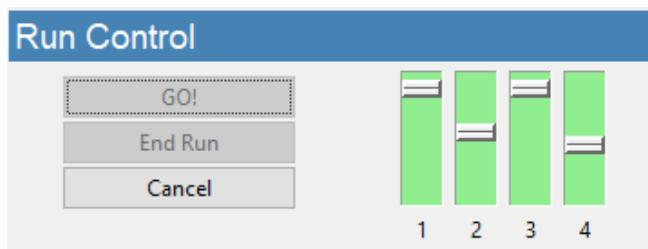

Figure 8. Run Control frame and fill monitors status.
- Press “GO!” to prime the cartridge (Run Control frame, Figure 8).
- After normal priming, the fill monitors should have approximately the pattern shown in Figure 8.
- After acquiring sufficient data, press "End Run" (Run Control frame, Figure 8).